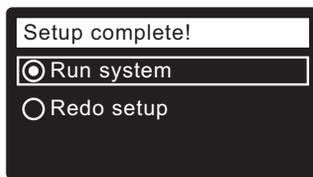

FIG. 29
22. Press the SELECT (O) button. The screen will show "Setup complete!" (See Figure 29).
23. If, at this point, you want to go back and make changes, press the DOWN (▼) button to scroll to **Redo setup**, then press the SELECT (O) button twice to repeat the "wizard" screens.
24. If no changes are desired, make sure **Run system** has a dot next to it (See Figure 29) and press the SELECT (O) button. The unit begins normal operation, described on Page 14.